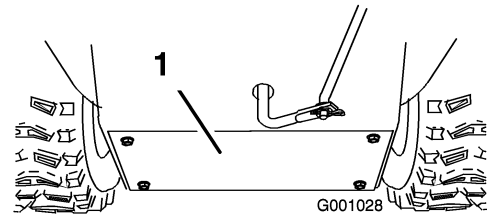

Figure 44
3. Remove the back cover (Figure 44).